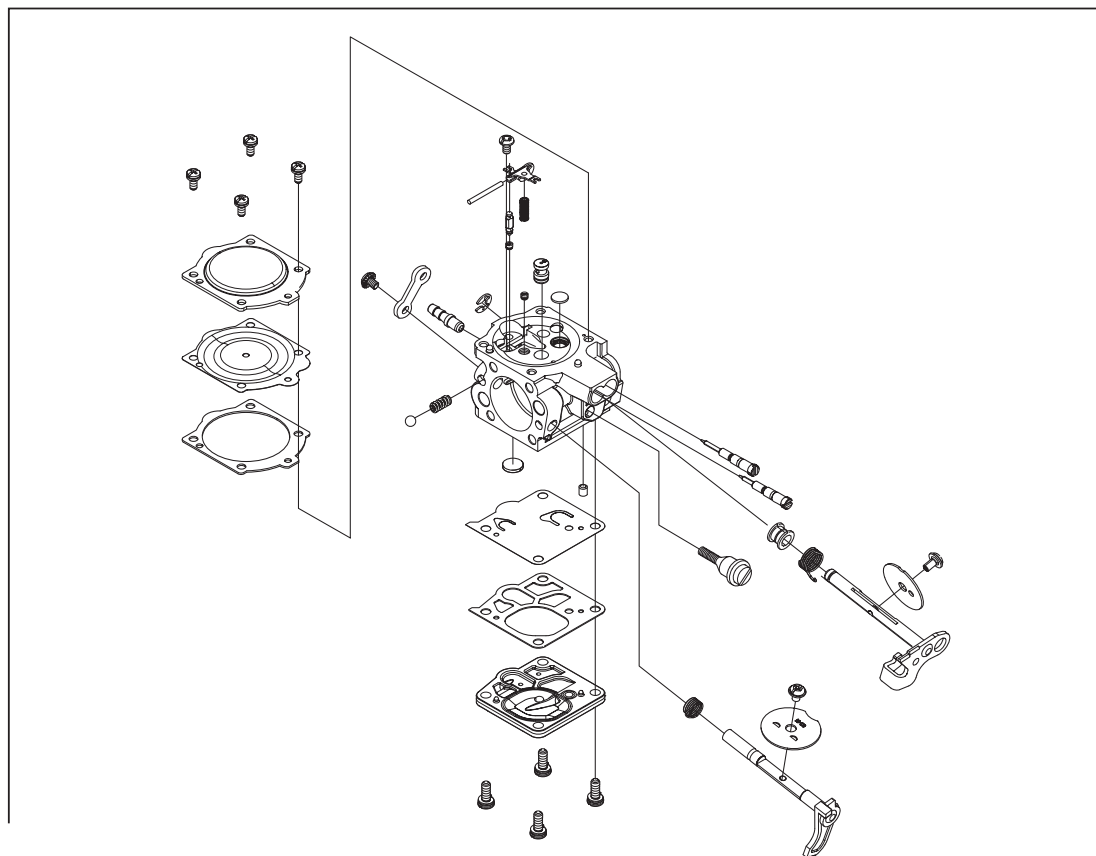

Fig. 11
11. Remove the high and low speed screws. See fig. 11.
12. If necessary, remove the throttle and choke valves and remove the spindles together with levers and springs. See fig. 11.
Where no figure is referred to, see fig 11 in *Disassemble the carburettor*